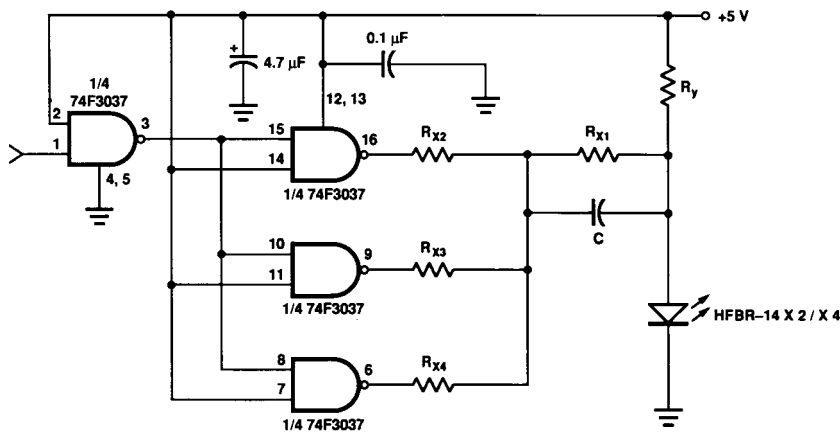

Figure 11. Recommended Drive Circuit.
- Pre-bias is recommended if signal rate $> 10 \text{ MBd}$, see recommended drive circuit in Figure 11.
Figure 11 uses frequency compensation to reduce the typical rise/fall times of the LED and a small pre-bias voltage to minimize propagation delay differences that cause pulse-width distortion. The circuit will typically produce rise/fall times of 3 ns, and a total jitter including pulse-width distortion of less than 1 ns. This circuit is recommended for applications requiring low edge jitter